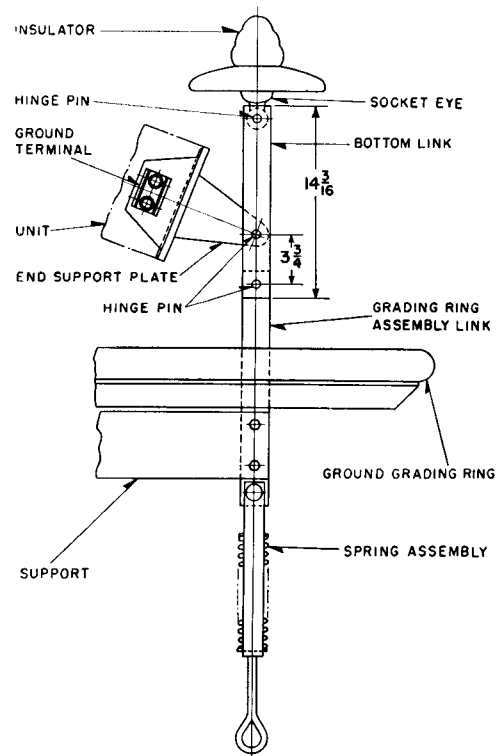

FIG. 5. GROUND GRADING RING AND SPRING ASSEMBLY
Ground Grading Ring. Bolt the long support plate to the ring assembly links as shown in Fig. 5. The long support plate will have the dress and arrester nameplates attached.
12. Attach the insulator string and end link to the ground grading ring support links (Fig. 5). The longer of the support links is attached to the end link.
13. To the bottom of the support links add the spring and tie down assembly. (See Fig. 5).